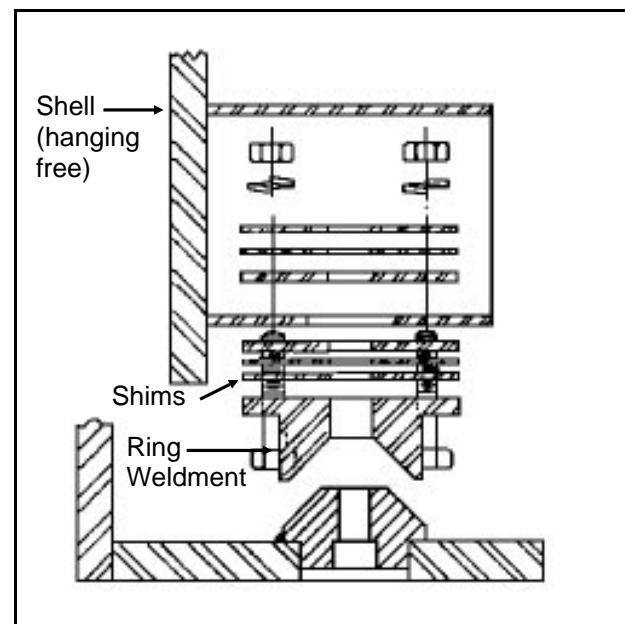

FIGURE 6 (MSSM0302AE)
4. Once the proper arrangement of shims is made, remount the ring weldment and shims to the mounting bracket (see FIGURE 6). Any extra shims may be stacked on the top side of the mounting bracket plate to which the ring weldment is attached.